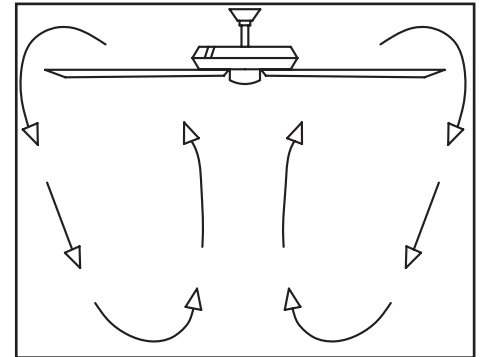

Figure 15
**Cool weather** - (Reverse) An upward air flow moves warm air off the ceiling as shown in Figure 15. This allows you to set your heating unit on a lower setting without affecting your comfort.